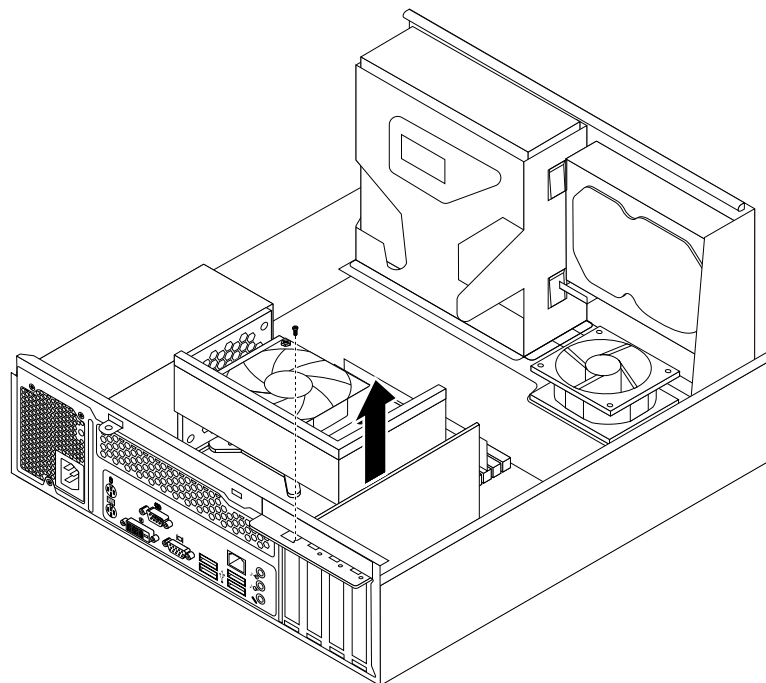

Figure 11. Removing the PCI card
- If you are replacing a PCI card, remove the screw that secures the old PCI card and release the old PCI card from the PCI card slot. Then, carefully remove the old PCI card from the chassis, as shown in Figure 11 “Removing the PCI card” on page 18.